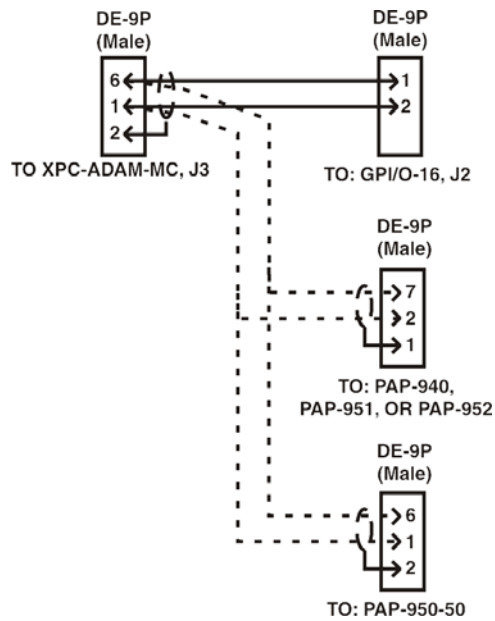

FIGURE 7. Y-Cable Diagram
1. Using a Y cable (Figure 7), connect the **J3 output** of the ADAM MC to the **J2** on the UIO-256/GPIO-16.